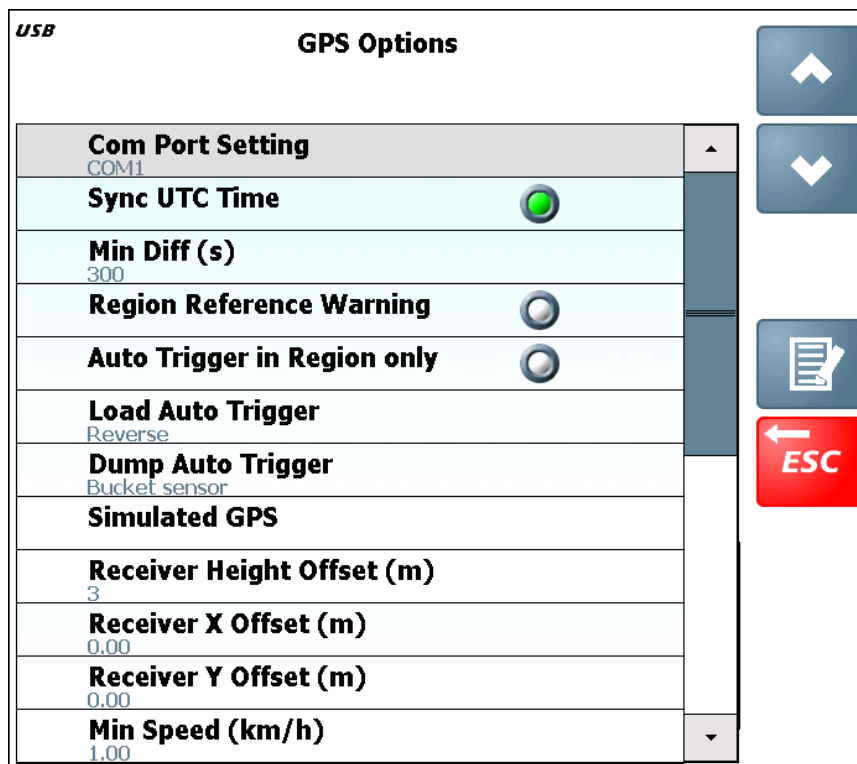
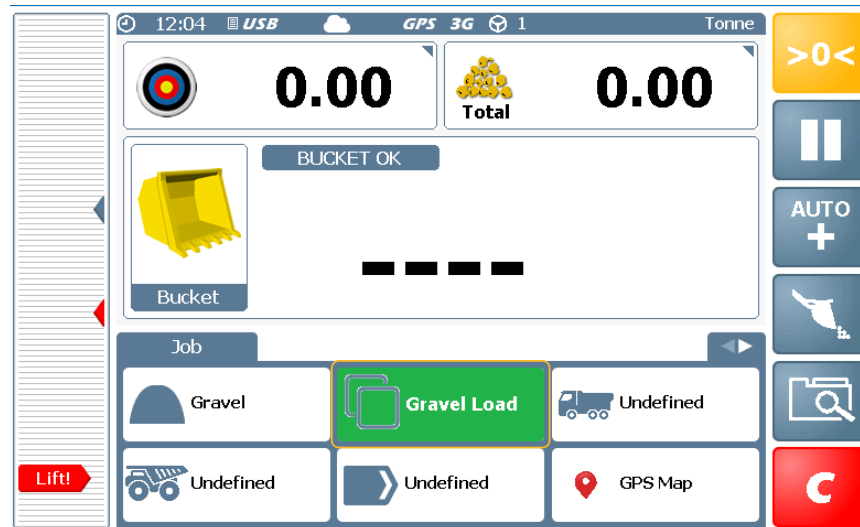
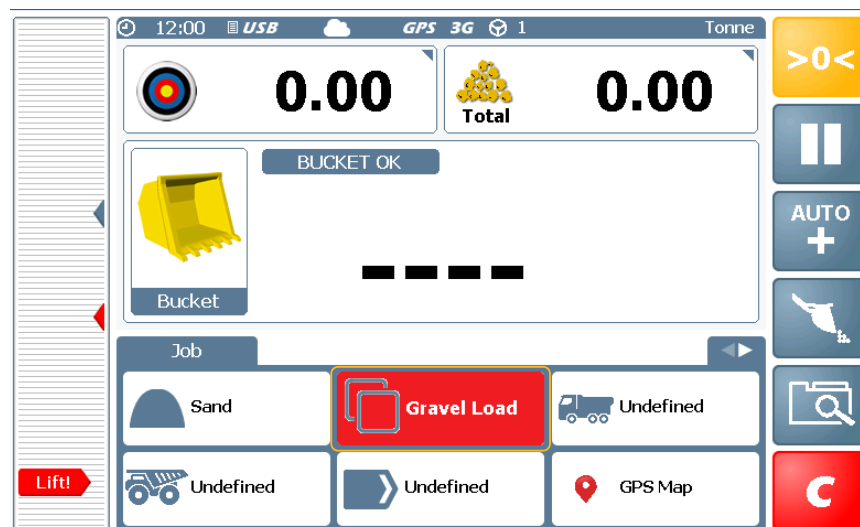

Figure 2-4: Load Weighing Display GPS Options
Figure 2-7: Load Weighing Display Dump Region Green
Figure 2-8: Load Weighing Display Dump Region Red
6. Select **GPS**, then select **Edit** to open the **GPS Options** screen (Figure 2-4 on page 2-3).
- c. Select **Com Port Setting** on the **GPS Options** screen (Figure 2-4).
Sync UTC Time (Figure 2-4 on page 2-3) must always be enabled because the time and date must always be correct.
- Select **Region Reference Warning** on the **GPS Settings** screen to enable it (see Figure 2-4 on page 2-3). After the material is picked or loaded, the product is automatically selected on the load weighing display. The operator drives to the dump region. If the dump region has the same material assigned, the box is green (Figure 2-7 on page 2-6). If the dump region has a different material assigned, the box is red (Figure 2-8 on page 2-6).
- Clear the **Region Reference Warning** on the **GPS Settings** screen (Figure 2-4 on page 2-3) to disable it and automatically select the region name and the product when the auto trigger is enabled (see “Auto Triggers” on page 2-7).